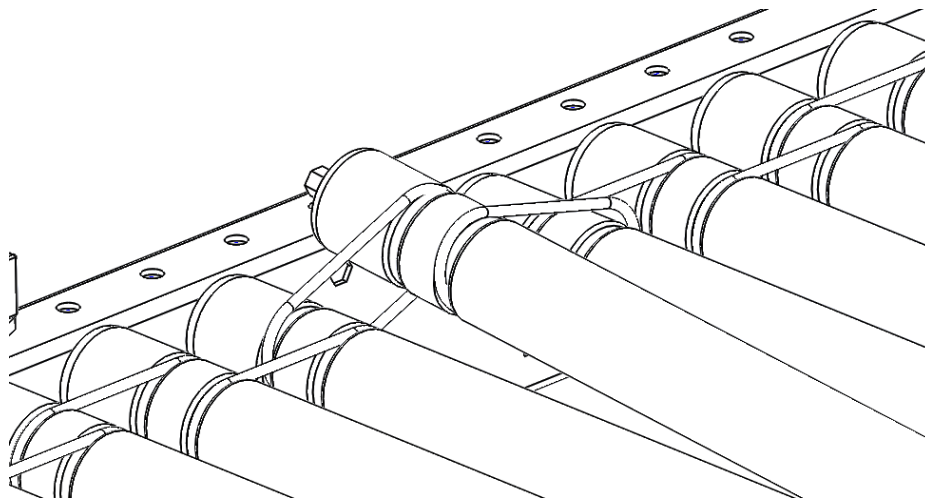

Figure 15: MDR Removal-3
6. Provide upward force on the roller body until the hex is sitting above the sideframe. Refer to Figure 15. (A putty knife or other flat surface tool is recommended to be placed between the hex shaft and the inside of the frame. This will help protect the paint on the sideframe.)
4. Provide upward force on the roller body until the hex is sitting above the sideframe. Refer to Figure 15. (A putty knife or other flat surface tool is recommended to be placed between the hex shaft and the inside of the frame. This will help protect the paint on the sideframe.)